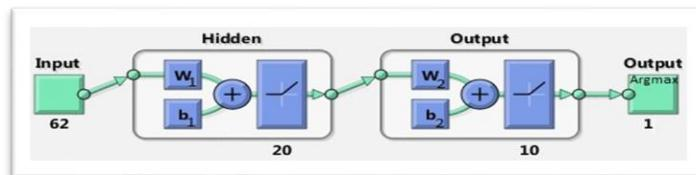

Figure 5. The required MLP network (MATLAB View)
- In this project, you should implement the design based on access to limited hardware resources. Consider the case that only **10 hardware neurons** are provided as resources to perform all network computations (Figure 5). In this scheme, each neuron has a single **MAC** unit designed in the previous assignment. If a layer has more than 10 neurons, the computations of this layer must be executed **serially** on the hardware (running the computations of 10 neurons in parallel each time).